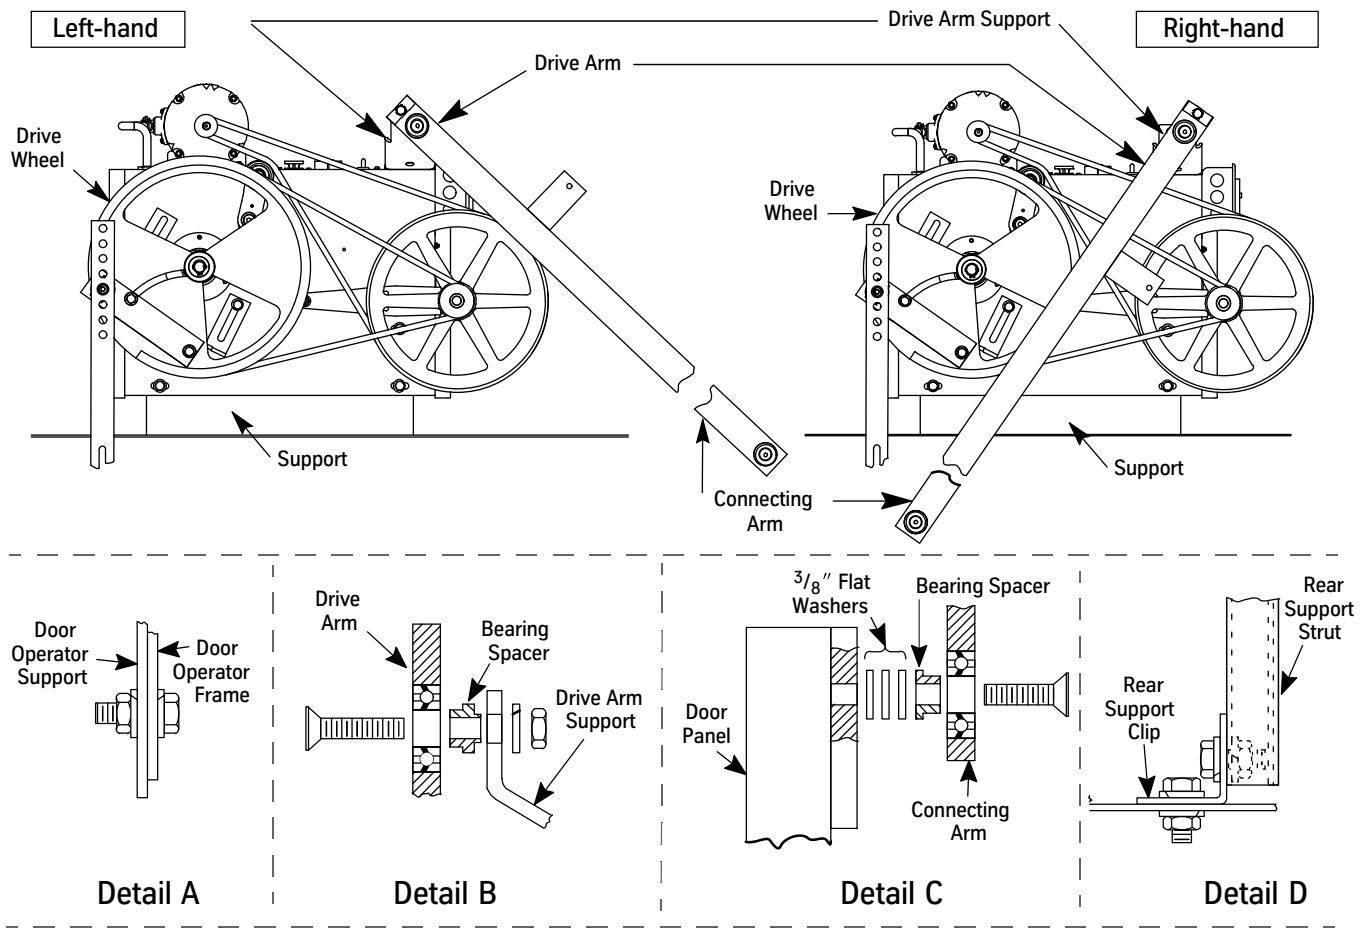

Figure 3 - Mounting the Door Operator
1. Lift the door operator to the car top. Center the operator in the slots of the door operator support. Install the four bolts and tighten. See Figure 3 on page 10, Detail A.
2. Attach the drive arm to the right hand hole in the drive arm support, as you look at the front of the operator, in the drive arm support. See Figure 3, Detail B.
3. Attach the connecting arm to the door panel. See Figure 3, Detail C.
4. Install the rear support. See Figure 3, Detail D.